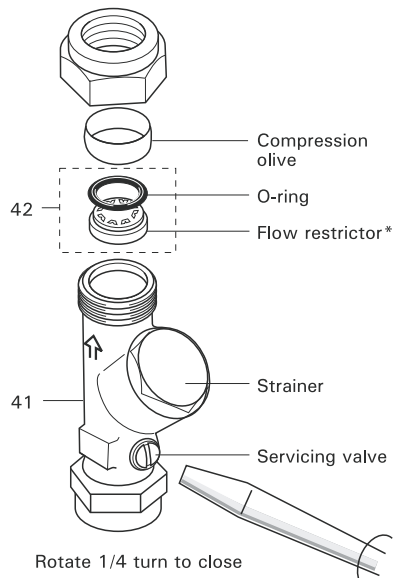

Figure 2 In-line filter and service valve showing restrictor
**Approval only applies when the valves are installed without the flow restrictors illustrated in Figure 2.**
When installing on a modulating combination boiler it is sometimes possible for the interaction of a thermostatic valve with the combi to cause the boiler to cut out and cut in again with the result that the water will become alternatively cold and hot. To overcome this it is necessary to fit the flow restrictors\* supplied upstream of the CTV. When installing on a combi boiler system these should be inserted in the downstream side of the servicing valve as shown on Figure 2. It is essential that these are positioned the right way round as shown in the sketch. Remove the compression nut and olive from the outlet side of the Isolating valve and place the restrictor in the outlet.
2. Turn the servicing valve to the off position, Figure 2.